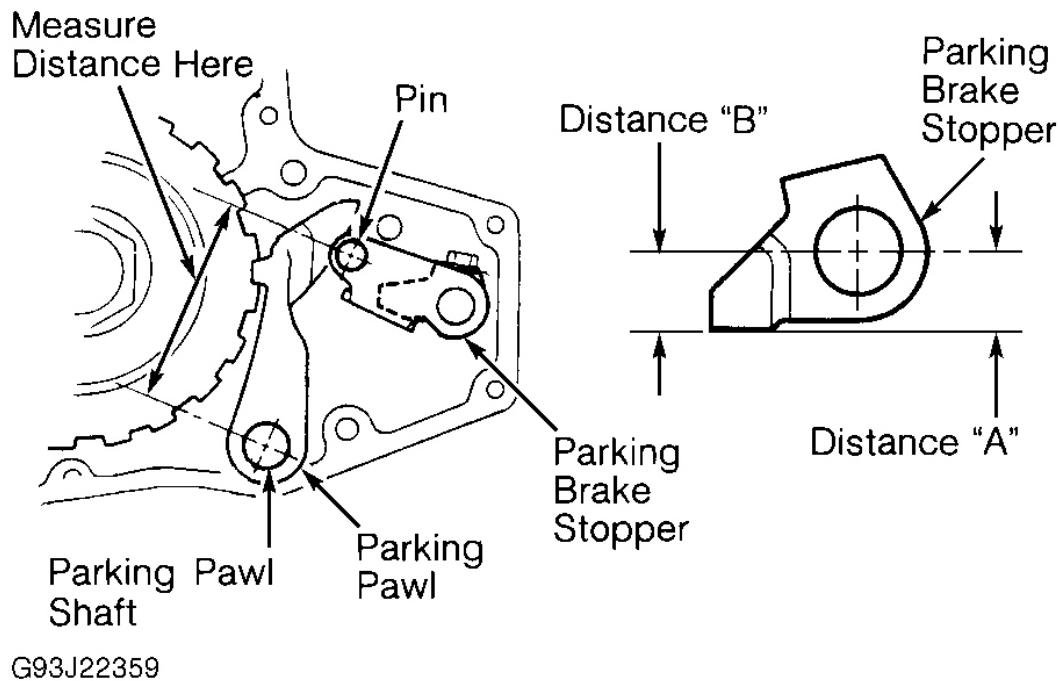

Fig. 30: Parking Brake Stopper Distance & Parking Brake Stopper
28. Place parking brake lever in "P" position and ensure parking pawl engages parking gear. Measure parking brake stopper distance between pin on parking brake stopper and parking pawl shaft. See **Fig. 30** .
(1) Measured from center of parking brake stopper. See Fig. 30 .